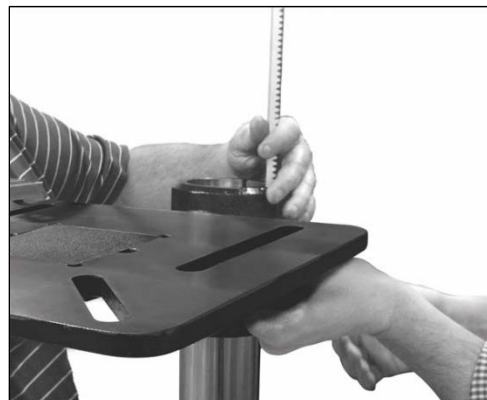

Figure 6-4
6. Insert rack (Figure 6-4) into slot in table bracket, meshing the rack teeth with the worm gear. NOTE: The longer un-toothed section of the rack is toward the top.